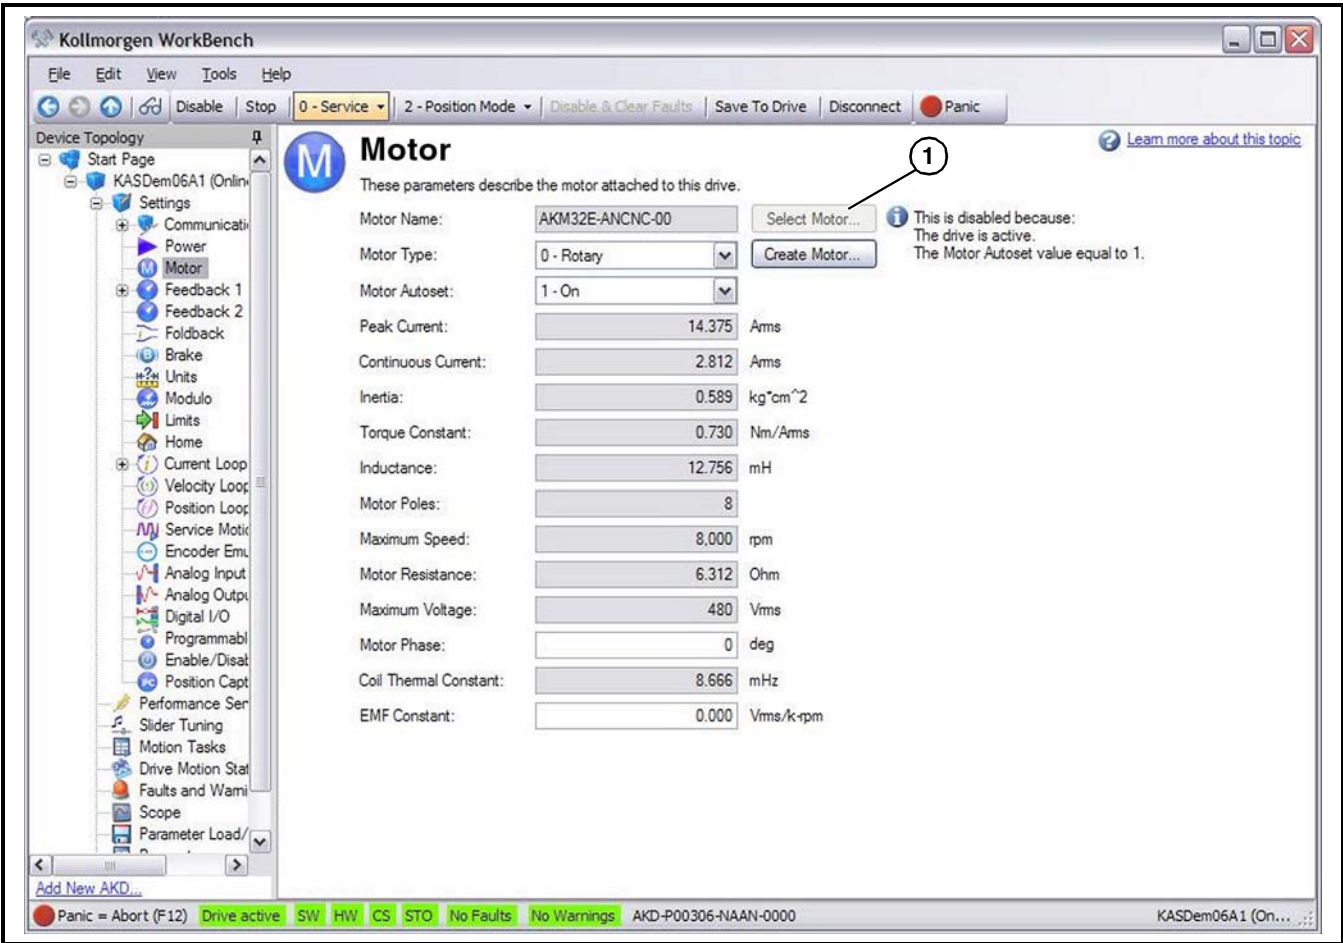

Figure 40
Motor Name: **Select motor (Figure 40, item 1)** from list. The other fields will fill in automatically.